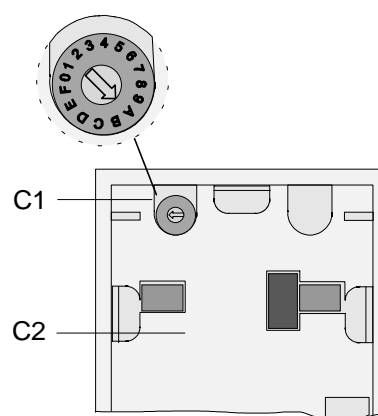

Figure 3: Adjusting the transmission channel
**Adjusting the transmission channel (Figure 3)**